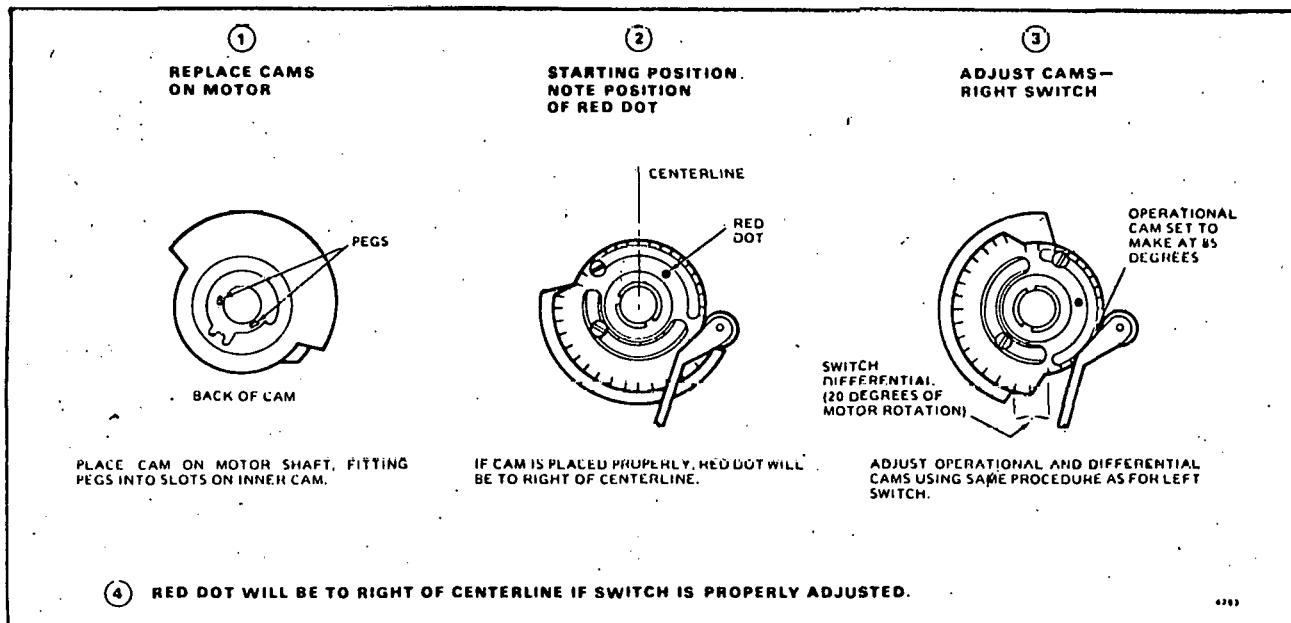

FIG. 16—ADJUST MAKE AND BREAK POINTS OF RIGHT AUXILIARY SWITCH.
6. Put right switch cams on motor shaft and adjust right switch (Fig. 16).